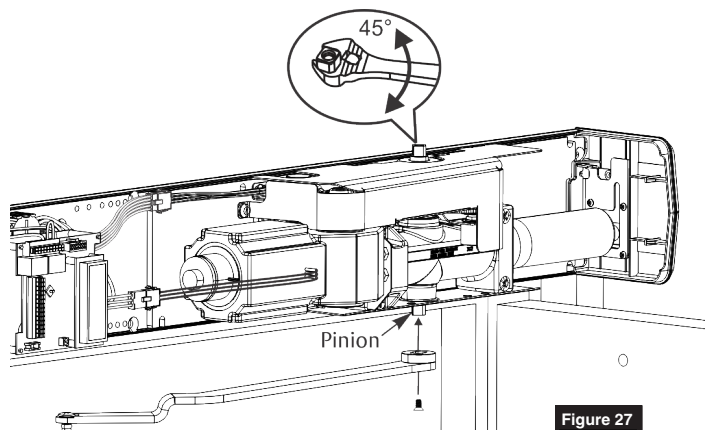

Figure 27
2. Using an adjustable wrench, rotate top pinion 45 degrees toward door hinge. You will feel resistance from spring. (Figure 27)
3. While holding pinion at 45 degrees, slide arm on bottom pinion parallel to frame as shown. (Figure 27)
4. Secure arm to pinion with 1/4-20 x 1/2" screw and countersunk patch washer. (Figure 27)